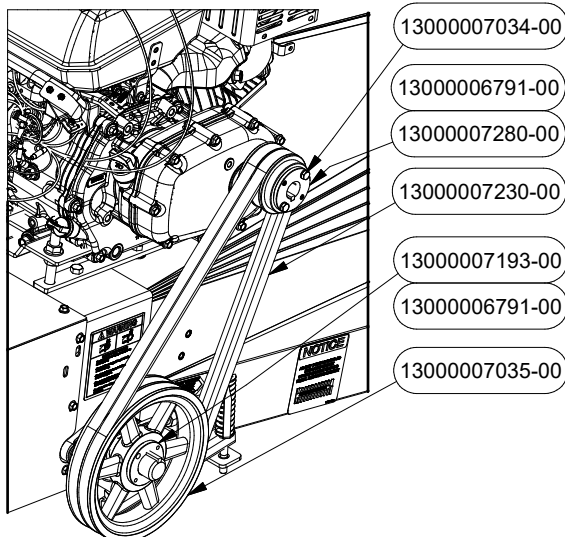

FIGURE 19
19. Mount belt sheave PN# 7035 onto bushing PN# 7193. Slide onto drive roller with key PN# 6791 but do not tighten bushing bolts. Mount belt sheave PN# 7034 onto bushing PN# 7280. Slide onto engine shaft with key PN# 6791. Align belt sheaves with each other and tighten bushing bolts in place. Install belts PN# 7230 on belt sheaves. Adjust height of motor mount and engine using nuts motor mount adjuster studs to install belt and then again to achieve proper tension on the belt. See Figure 19.